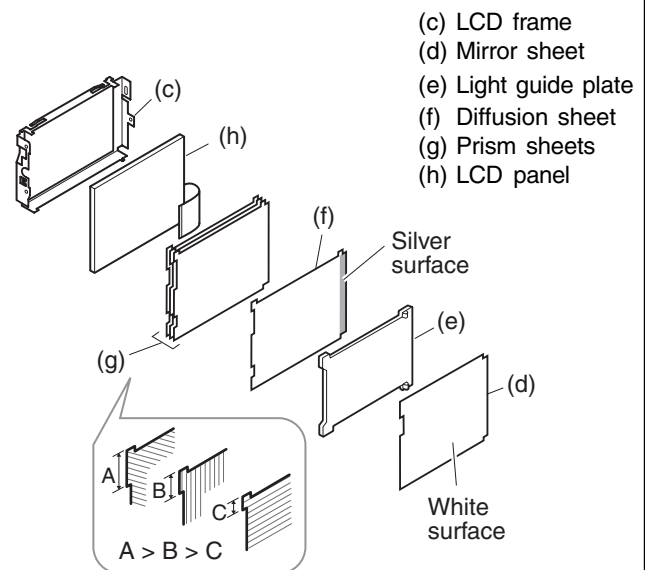

Fig. 5-3-25 Assembling parts inside LCD frame
- 2) If the mirror sheet, light guide plate, diffusion sheet, prism sheets or LCD panel becomes detached from the LCD frame, assemble them as shown in Fig. 5-3-25.